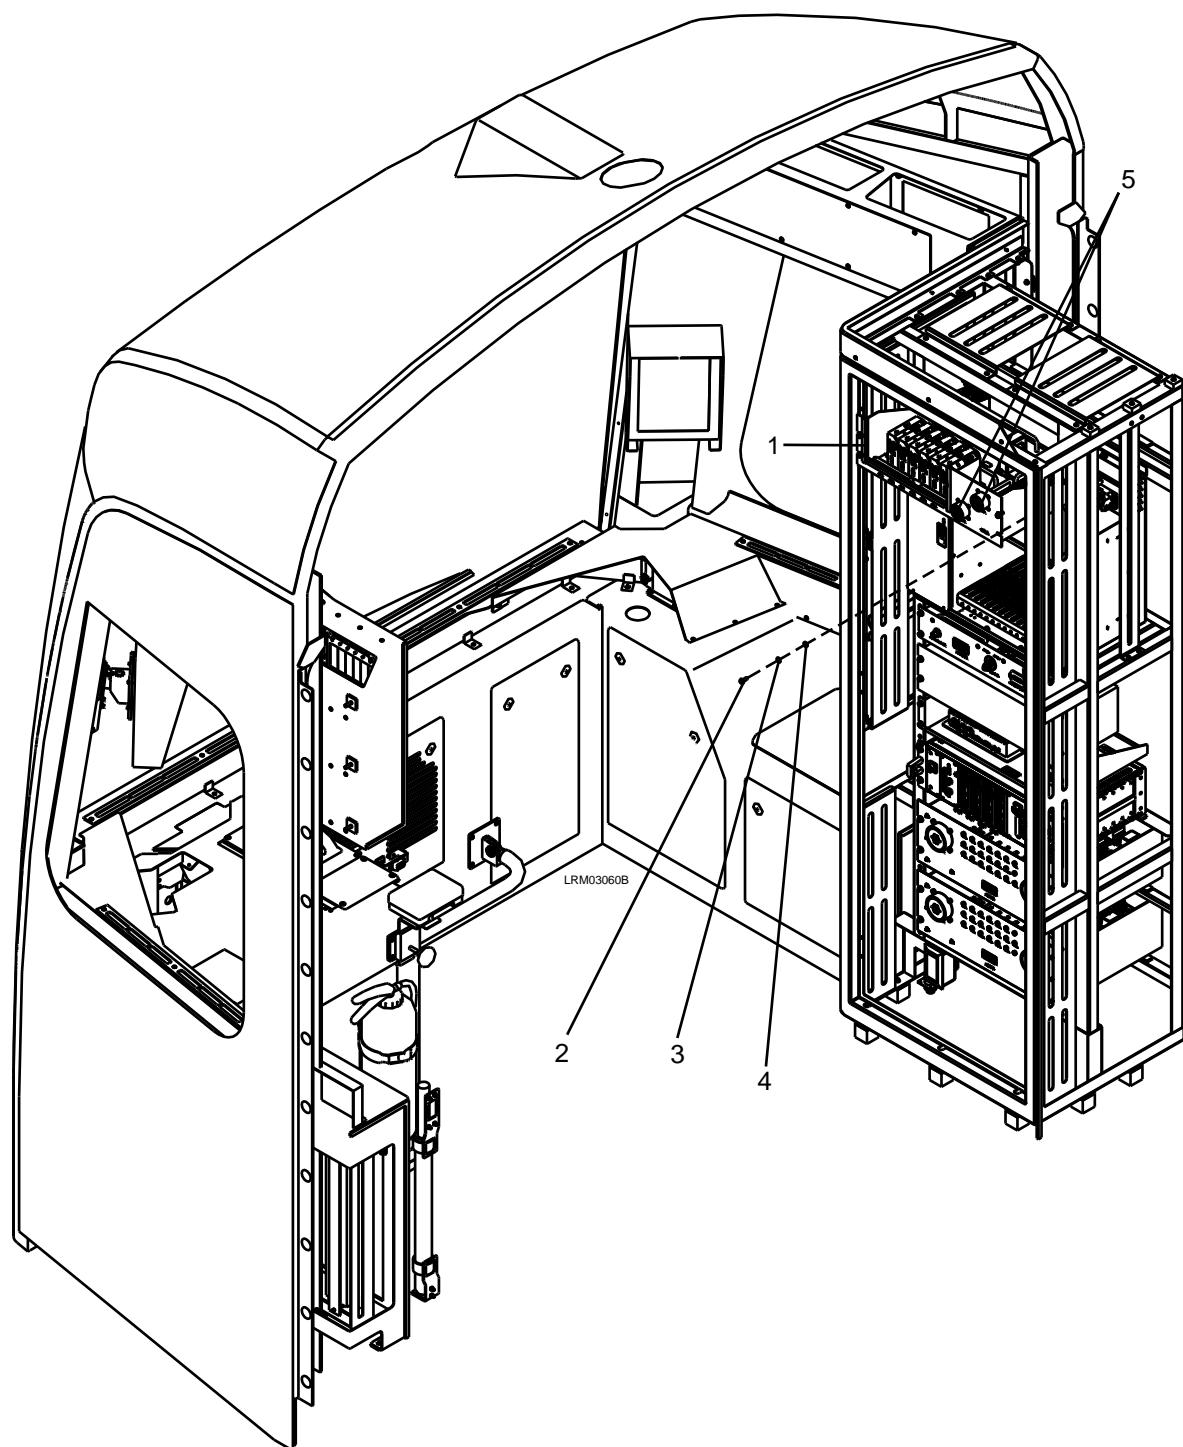

Figure 7-41: ACP1B Panel
2. Disconnect the electrical connectors (5) to the ACP1B Panel (1). See Figure 7-41.
3. Remove the four M6 x 16 screws (2), M6 lock washers (3), and M6 plain washers (4).
4. Carefully remove the ACP1B Panel (1).